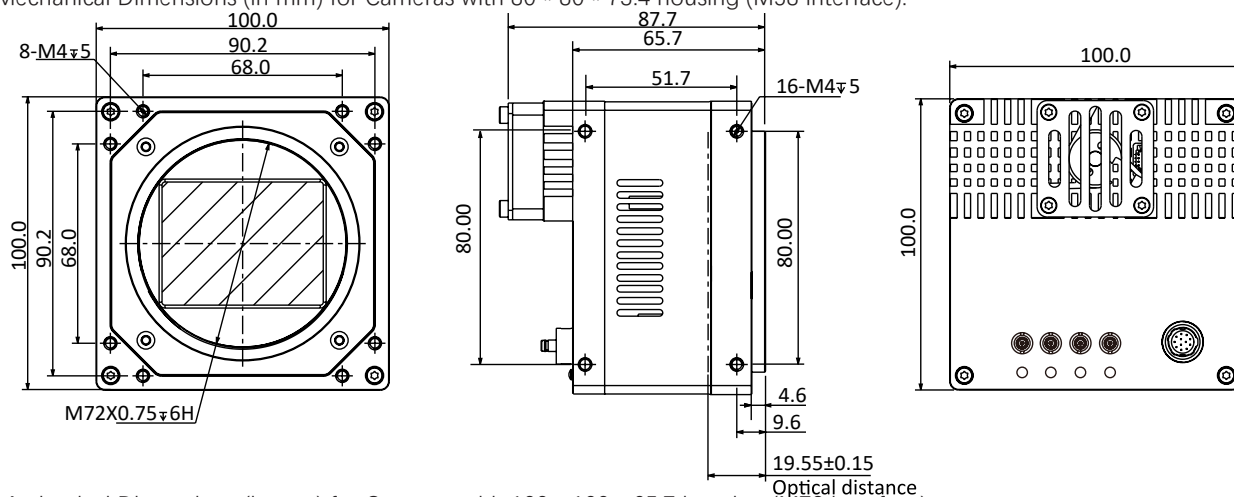

Fig. 1-11: Mechanical Dimensions (in mm) for Cameras with 100 \* 100 \* 65.7 housing (M72 interface).
- Fig. 1-11: Mechanical Dimensions (in mm) for Cameras with  $100 \times 100 \times 65.7$  housing (M72 interface).